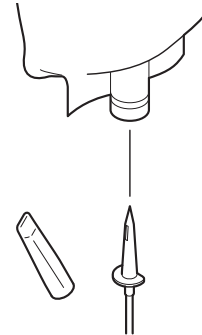

Figure 91 – Irrigation Bag Connection
- Remove the protective cover from the irrigation tubing spike (Figure 91).